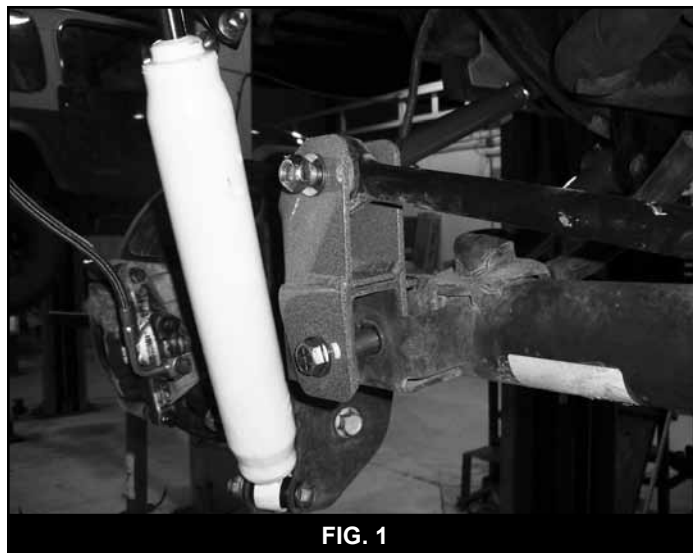

FIG. 1
5. Locate the new rear track bar bracket (01967). Install the bracket over the factory track bar mount at the axle (Fig 1). The support wing on the bracket will rest on the existing bump stop pad on the axle and align with the holes in the bracket. Align the original track bar mount hole with the hole in the bracket. Temporarily install a 9/16" x 3-1/2" bolt (BP 563). Using the bracket as a guide, mark the top mounting hole to be drilled. Remove the bracket and drill a 7/16" hole at the mark.